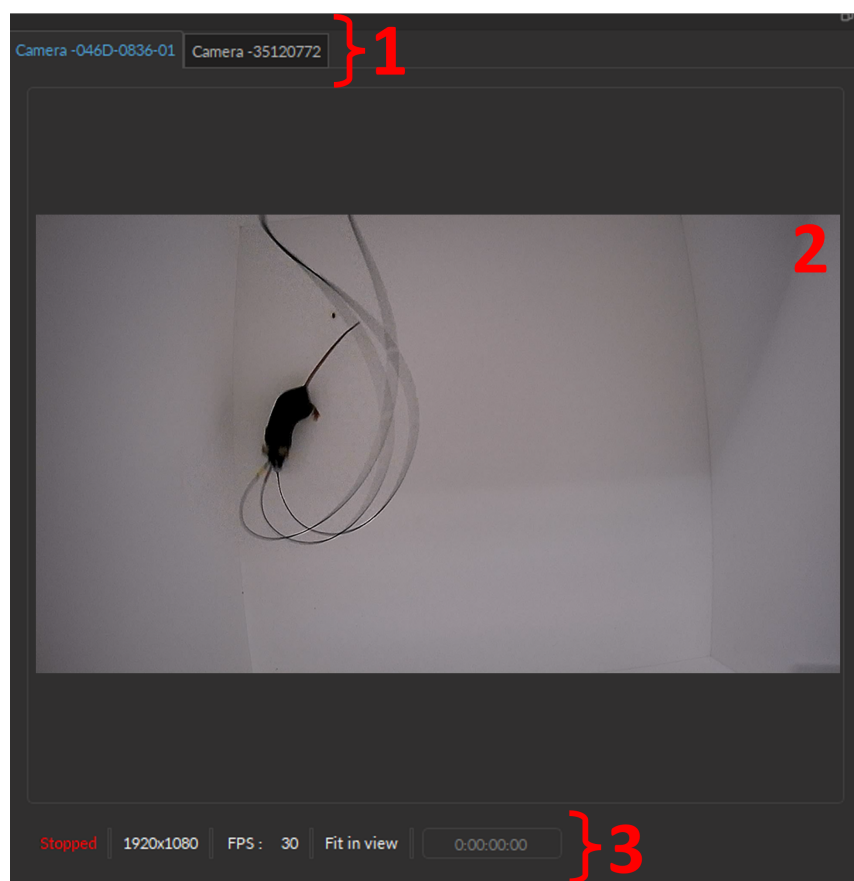

Figure 12.35: Camera View
1. The **Sensor Tabs** (Fig. 12.35, 1) allows users to select which **Camera Channel** (if there are more than one camera channels) to view since only one **Camera Feed** can be displayed at a single time.
2. The **Camera Feed** (Fig. 12.35, 2) displays the video footage of the selected **Camera Tab** (in blue). Toggle between the Tabs to switch to see the video feed from a different camera.
3. The **Live Monitoring Bar** (Fig. 12.35, 3) tracks the current parameters of the camera, including: